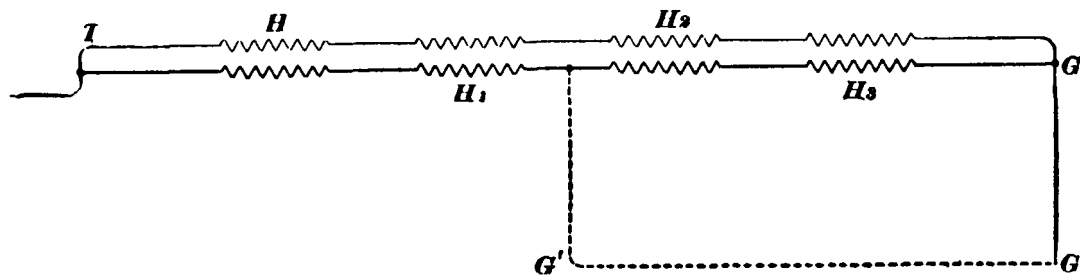

FIG. 44.
40. Troubles With Heaters.—Figs. 44 and 45 show how simple mistakes may cause trouble. In Fig. 44, H , H_1 , H_2 , H_3 are four heaters in series across the line and the path of the current through them is $T-H-H_1-H_2-H_3$ to the ground at G . When connected thus, these heaters take all the current that they should have. Now, suppose that on account of some poor wiring, the wire joining heaters H_1